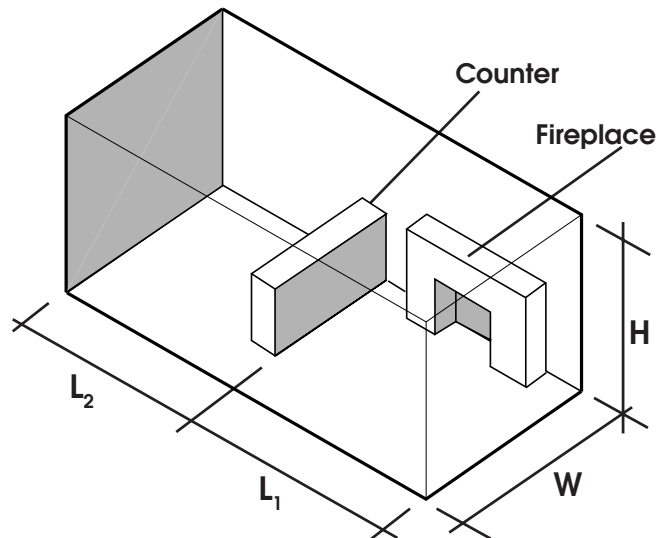

Figure 1: Example of Large Room with 1/2 Wall Divider
Example: Refer to *Figure 1*, two (2) connecting rooms with an open area between, with the following dimensions: